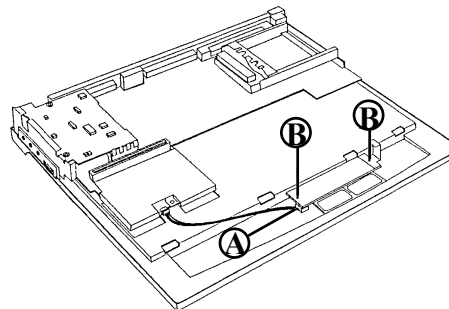

FIGURE 10-1
2. UNPLUG THE CONNECTOR (FIGURE 10-1 A) FROM THE BUTTON BOARD. REMOVE TWO SCREWS (FIGURE 10-1 B) AND LIFT THE BOARD FREE